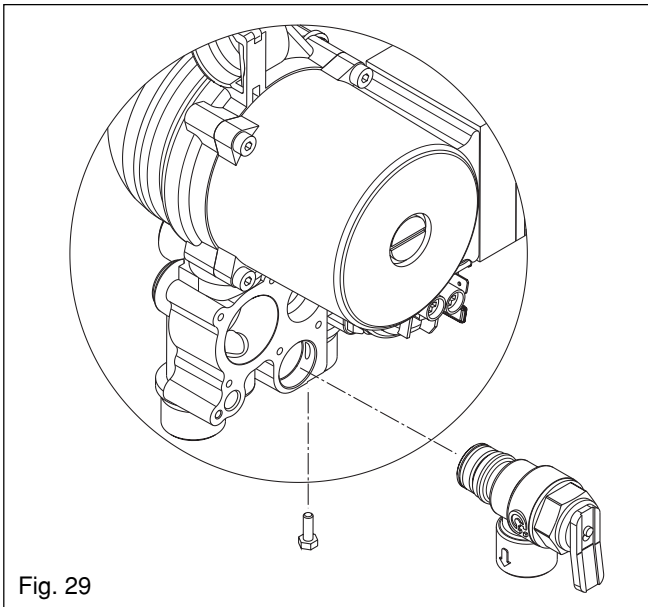

Fig. 29
6.6 SAFETY VALVE (see fig. 29)